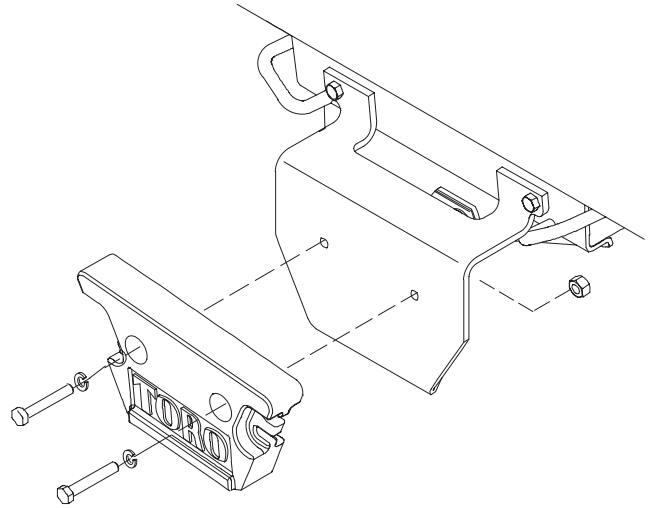

Figure 5
1. Mount the weight to the rear bumper with (2) 1/2-13 x 2-1/4" capscrews, lockwashers and nuts (Fig. 5).